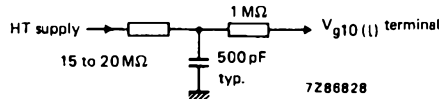

Fig. 9 RC network.
1. These values are valid at cut-off of both flood guns and the writing gun. The HT unit must be capable of supplying 0,5 mA. To protect the tube against excessive surge current during erasure, an RC network as shown in Fig. 9 must be connected in series with the screen terminal lead; the resistance of 15 to 20 M Ω includes the internal resistance of the HT supply.